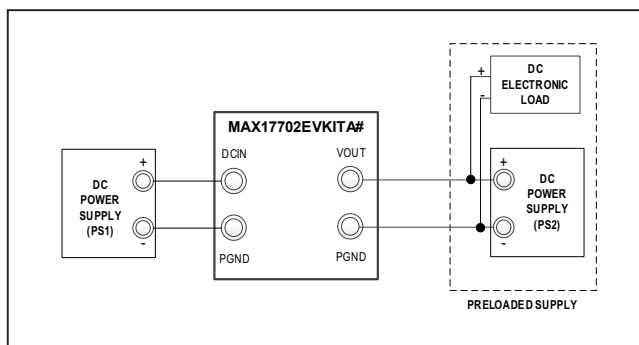

Figure 2. Preloaded Supply Connection with the EV kit
- 3) Set the electronic load (LOAD) at 12A in constant current (CC) mode and disable the load.
- 4) Connect PS1, PS2, and LOAD to the EV kit as shown in Figure 2.